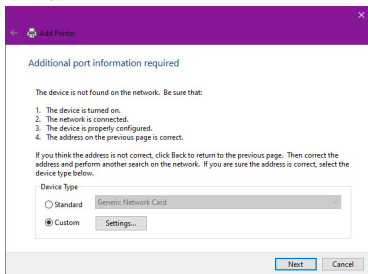

Figure 24
7. On the **Add Printer** screen, select the **Custom** option. Click **Next**. (Figure 24)